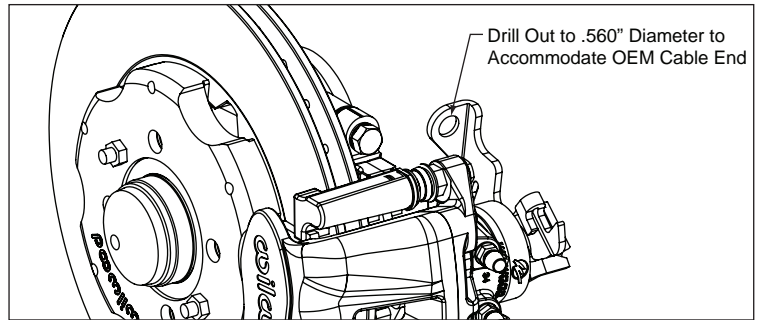
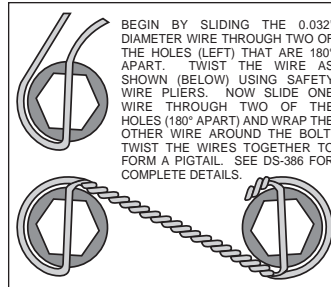

Figure 1. Caliper Cable Bracket Modification
Figure 4. Safety Wire Diagram
The parking brake cable bracket on the new Wilwood calipers needs to be modified to accommodate the original equipment cable end. Drill out the existing hole in the caliper as shown in Figure 1 to .560" diameter.
Assembly Instructions (numbers in parenthesis refer to the parts list and Figure 1 on the preceding pages):
- The caliper mount bracket (1) should initially be installed with clean, dry threads on the mounting bolts. Orient the bracket as shown in Figure 1 and Photo 1, and install using washers (3) and bolts (2). Initially place two .030 thick shims (4) on each bolt between the bracket and upright, Figure 1. Temporarily tighten the mounting bolts. **NOTE: The bracket must fit squarely against the mount bosses on the upright.** Inspect for interference from casting irregularities, machining ridges, burrs, etc. Later, after the caliper alignment has been checked, the mount bolts will be secured using red *Loctite*[®] 271.
- Orient the rotor (6) and the hat (7) as shown in Figure 1 and Photo 2. Attach rotor to hat using bolts (9) and washers (8). Using an alternating sequence, apply red *Loctite*[®] 271 to the threads, and torque to 155 **in-lbs**. For an added measure of security, the bolts may be safety wired using standard 0.032 inch diameter stainless steel safety wire as shown in Figure 4.
- Slide the rotor registration adapter (5) onto the axle register on the axle hub with the smaller O.D. facing outward, Photo 3. Slide the hat/rotor assembly onto the axle hub. **NOTE: The hat must fit flush against the axle hub flange or excessive rotor run out may result.** Install three lug nuts (finger tight) to keep the hat/rotor assembly in place while continuing with the installation.
- Install the brake pads (15) into the caliper (10) from the bottom with the friction material facing the rotor until the “v” spring clip snaps into place against the anvil, as shown in Figure 1 and Photo 4. They should install easily without interference.
- Lubricate the caliper mounting studs (13) with lightweight oil. Initially place two .035” thick shims (14) on each stud as shown in Figure 1 and Photo 5. Mount the caliper (10) onto the bracket (1) using lock nuts (11) and washers (12), Figure 1 and Photo 6. Temporarily tighten the lock nuts and view the rotor from the end of the caliper. The rotor should be centered in the caliper, Photo 7. If not, adjust by adding or subtracting shims (4) between the bracket and the upright. Always use the same amount of shims on each of the two mounting bolts. Once the caliper alignment is correct, remove the bracket mounting bolts (2) one at a time, apply red *Loctite*[®] 271 to the threads, and torque to 30 ft-lb.